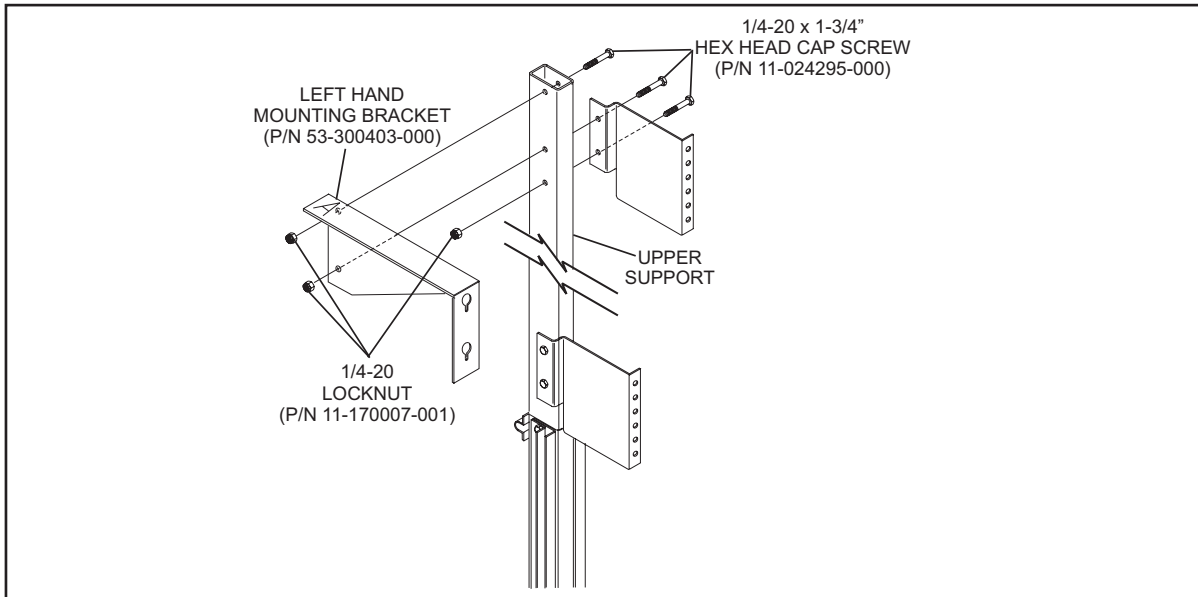

Figure 17
1. Install the first support assembly “A” projection screen mounting bracket and upper graphic standoff. Refer to *Figure 17*.